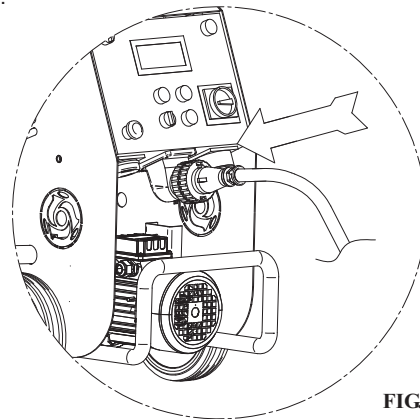

FIG.5
10.1 ELECTRICAL CONNECTION (see fig.5)